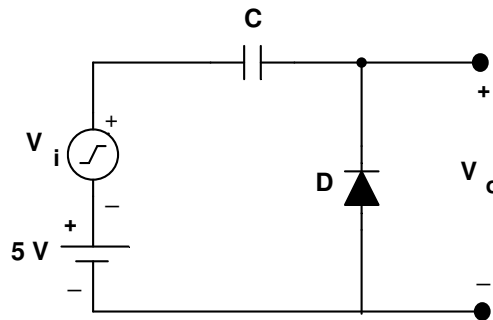

Fig.7(a)
**Q.7** For the circuit shown in fig.7(a), draw the waveform of output voltage  $V_o$ . Assume ideal diode D and lossless capacitor C.
The name of the circuit given in fig 7.(a) is Positive Clamper. A circuit that shifts the signal in the positive side in such a way that the negative peak of the signal falls on the zero level, is called a Positive Clamper.